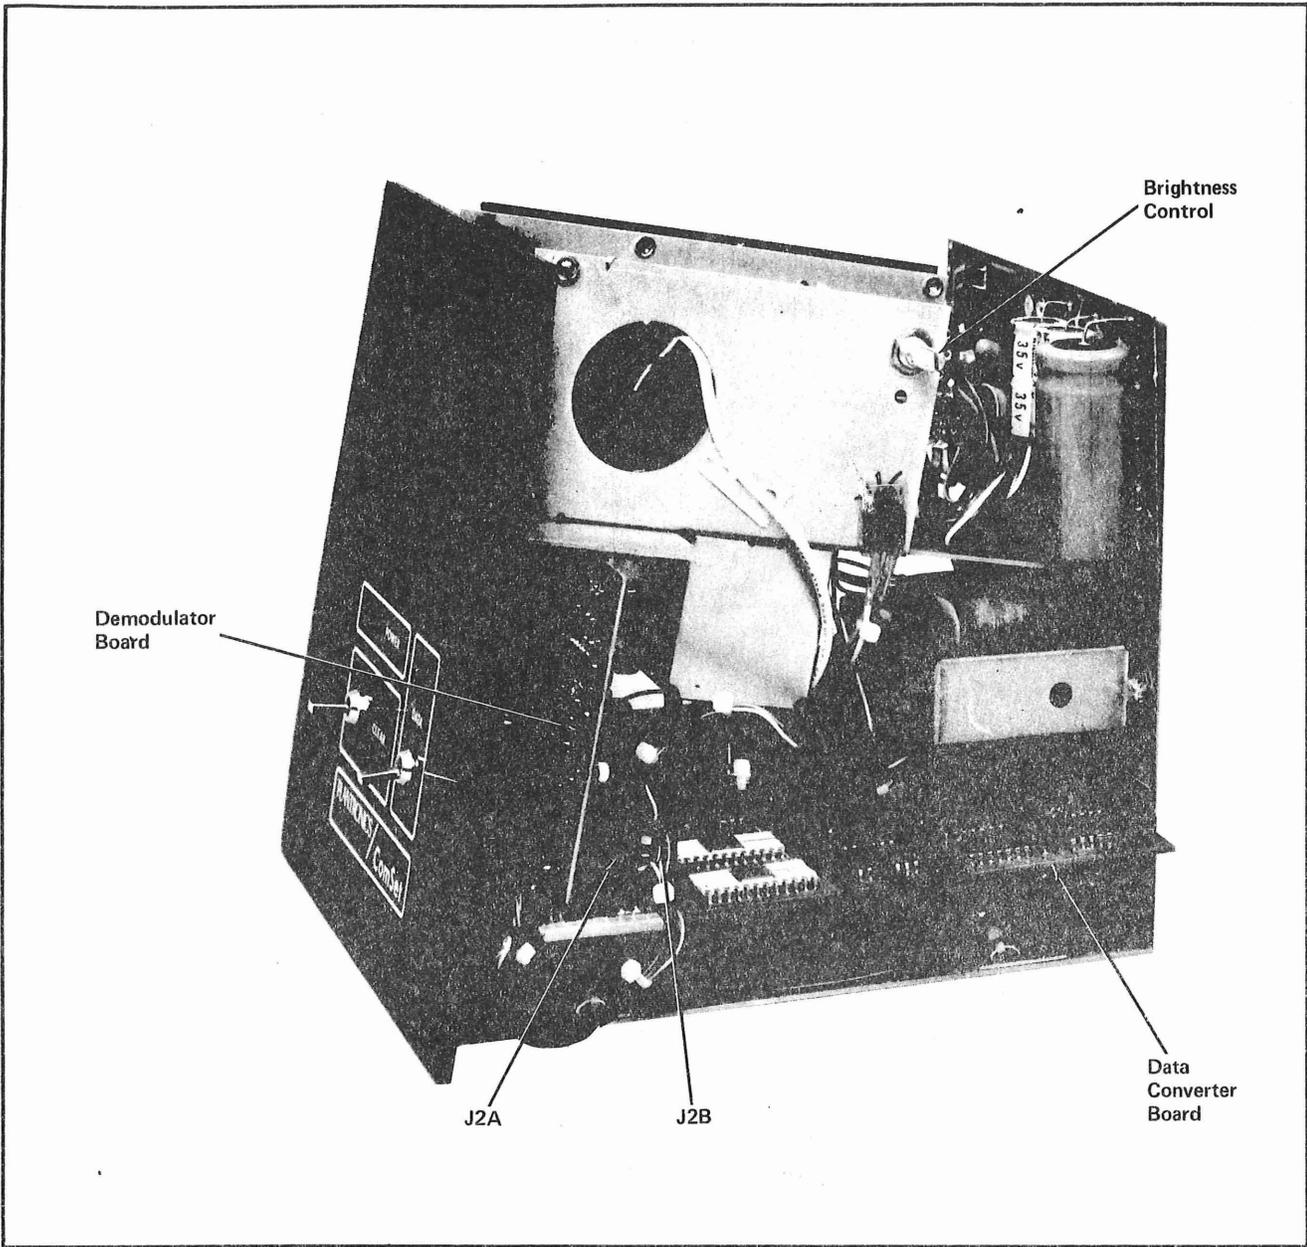

Figure 4-6. Right Side of Chassis
4.23 Note setting of video display brightness control, figure 4-6.
(a) If data is now correct, the original regulator board is malfunctioning. Replace regulator board. Adjust brightness and contrast control if necessary. (See figures 4-6 and 4-7.) Retest terminal.